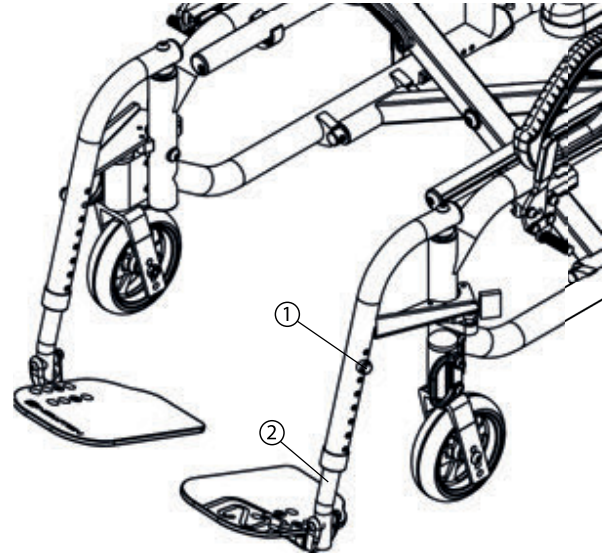

Fig. 16
- Remove screws on front riggings (1) (Fig. 16)
- Reinstall screws (1) at desired length.